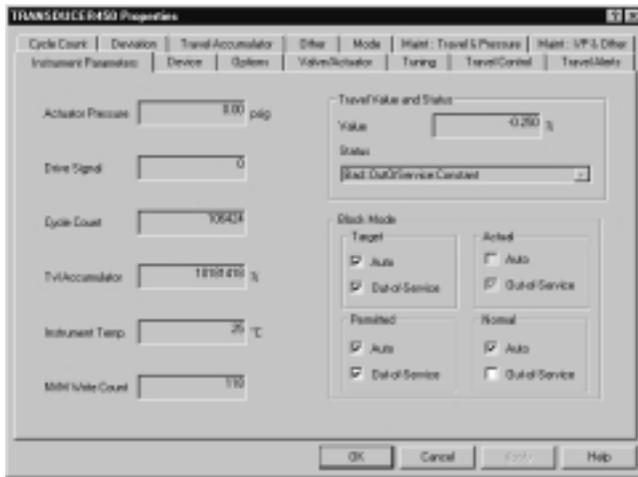

Figure G-17. Transducer Block Properties Window
2. Double click on the TRANSDUCER block icon. The transducer block properties window shown in figure G-17 appears.
4. Select Out of Service (O/S) and deselect Auto in the Target Mode region of the window. The mode you change in the properties window remains highlighted as in figure G-17 so you can easily track changes.
4. Double click on the TRANSDUCER block icon. The transducer block properties window shown in figure G-17 appears.